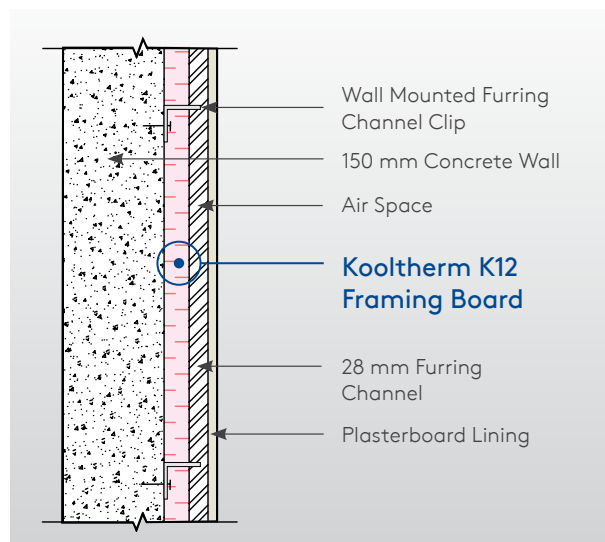

Figure 2. Side elevation of Kooltherm K12 Framing Board clip-and-channel system
2. Fit Kooltherm K12 over furring channel clips by pushing over the clips to abut the wall, and so that the wings of the clips penetrate the board. Care should be taken to avoid the foil facing of the Kooltherm K12 separating from the insulation core by neatly trimming the foil face at the point where the furring channel clip penetrates the insulation. See Figure 2.